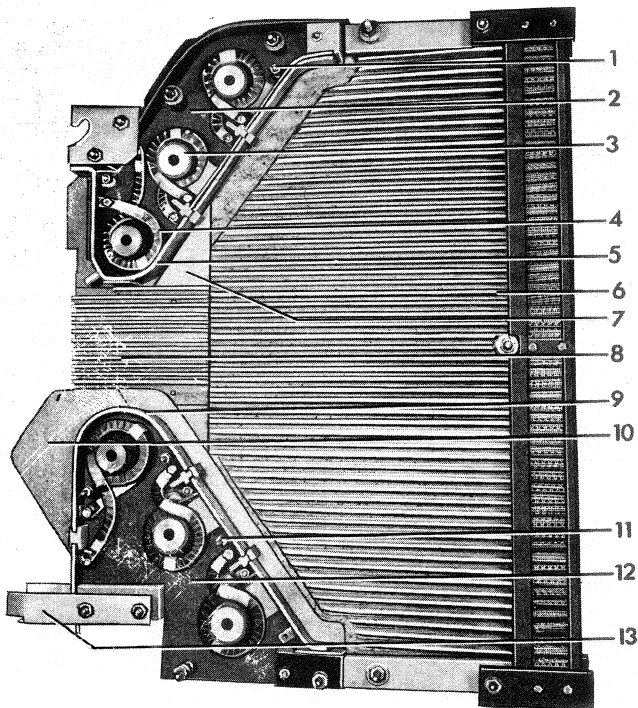
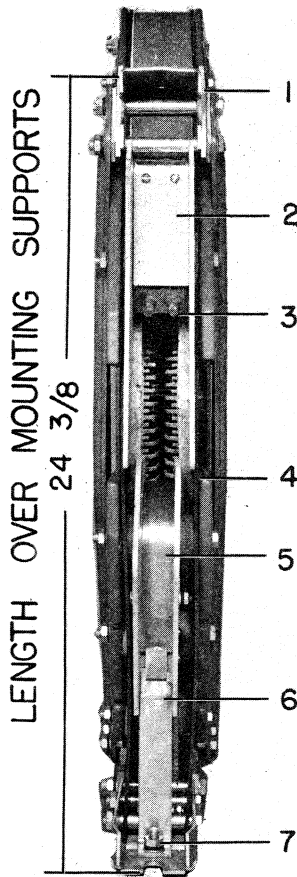

Figure 19B. (8038701) "-6" Design
Figure 20. (8029831) Interrupter Assembly
5. Remove the lower interrupter support (20) by removing the assembly bolts (21) Figure 18 and the connection nut (7) Figure 20.
6. At this point, the side shields (4) Figure 20, and the upper arc runner assembly (2) can be removed. On the "-6" design the throat coolers (8) Figure 19B, are permanently affixed to the side shields.